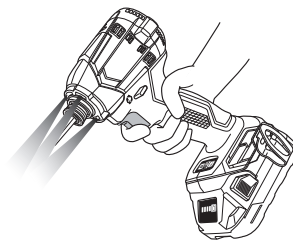

Fig. 15
12. LED light warning signal (Fig. 15)